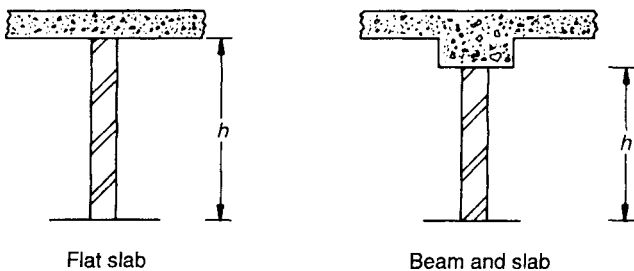

Fig. 9.4 Storey height.
- $5 \times$  clear storey height  $h$  (Fig. 9.4).